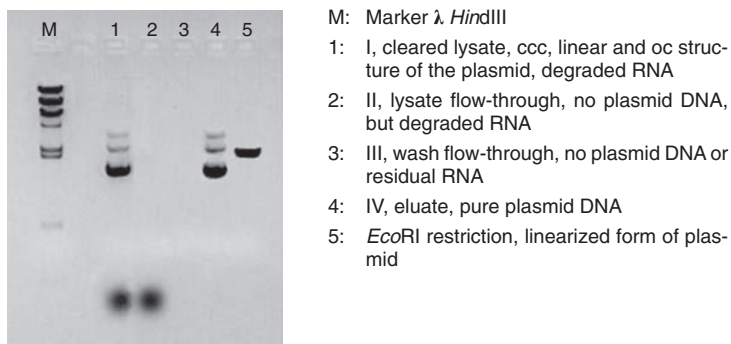

Figure 6 Exemplary analytical check of NucleoBond® Xtra Midi purification samples
The exemplary gel picture (Figure 6) will help you to address the specific questions outlined in the following section more quickly and efficiently.
- Check plasmid content in the cleared lysate (see Figure 6). Use colonies from fresh plates for inoculation and add selective antibiotic to plates and media.
- Too much cell mass was used. Refer to section 4.4 - 4.6 regarding recommended culture volumes and lysis buffer volumes. Check plasmid content in the cleared lysate (see Figure 6).
- Check plasmid content in the wash fractions (see Figure 6). Keep all buffers tightly closed. Check and adjust pH of Buffer EQU (pH 6.5), WASH (pH 7.0), and ELU (pH 9.0) with HCl or NaOH if necessary.
RNA contamination of plasmid DNA	<p>pH or salt concentration of wash buffer is too low</p> <ul style="list-style-type: none">• Check RNA content in the wash fractions (see Figure 6). Keep all buffers tightly closed. Check pH of Buffer EQU (pH 6.5) and WASH (pH 7.0) and adjust with HCl or NaOH if necessary. <p>Wash step with Buffer WASH was not sufficient</p> <ul style="list-style-type: none">• Double or triple washing step with Buffer WASH. Additional Buffer WASH can be ordered separately (see ordering information).